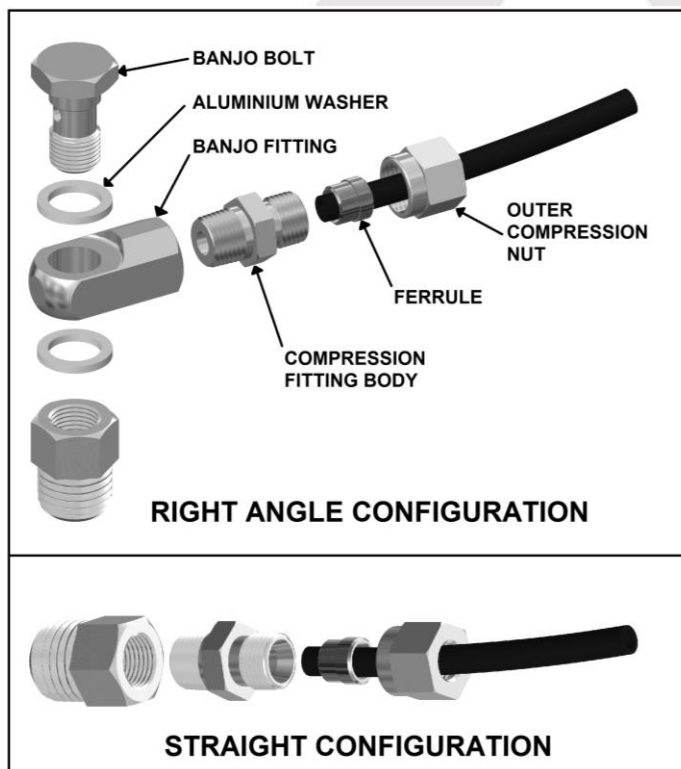

Figure 25.
- Assemble an aluminium washer onto the banjo bolt and insert through the banjo fitting. Assemble second aluminium washer and tighten into bulkhead fitting using a 14mm [9/16"] spanner. (Fig.25.)
- Insert the outer compression nut and ferrule over the air line. Ferrule should be orientated as per Fig.25.
NOTE : When right angle routing of the tube is not required, screw the compression fitting body straight into the bulkhead fitting body (Fig.25.).